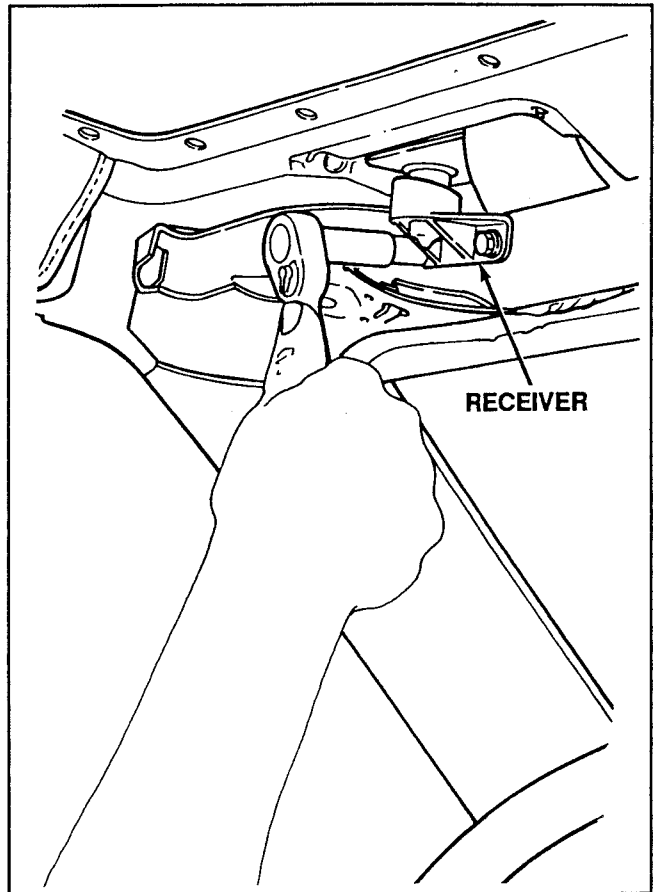

Figure 33. Adjust Receiver
5. Have a helper push down on the 1-bow. When the desired seal pressure is achieved, tighten the two receiver bolts (Fig. 33).